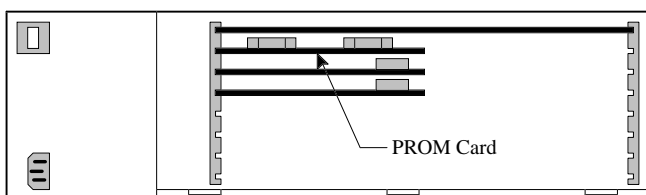

Figure 2 - PROM Card Location In Later VAX
4. Remove the PROM Card (see Figure 2) by pulling on the two tabs fastened to the front edge of the card. Once the card has disengaged the connector, use one hand to push up on the board above to help prevent the PROM Card from dragging as it is